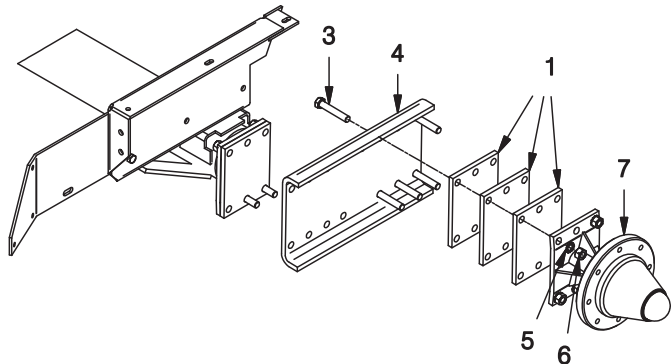

Figure 2 - Mounting Channel, Spacers and Hub
B. Place (5) 219530 Bolts through the mounting channel as shown in Figure 2. Place 3 F000007636 Spacer Plate and 1 F000008003 Hub and Spindle on the mounting channel as shown in Figure 2. Secure the Hub and Spacer Plates to the mounting channel with 5/8" star washers and nuts.